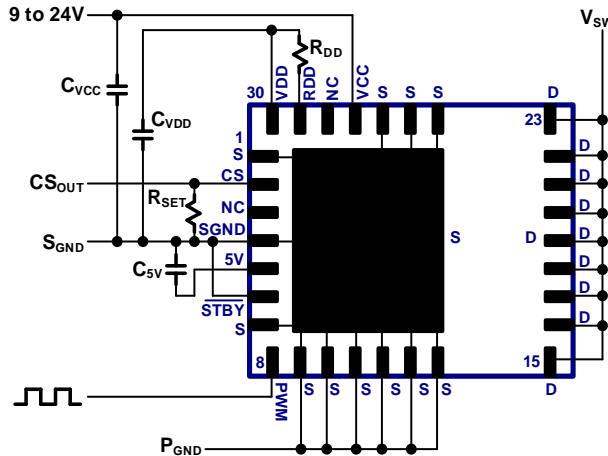

Fig. 20. IC connection diagram
The typical connection diagram for this GaN Power IC is shown in Fig. 20. The IC pins include drain of the GaN power FET (D), source of the GaN power FET (S), IC supply ( $V_{CC}$ ), gate drive supply ( $V_{DD}$ ), gate drive turn-on control SET input ( $R_{DD}$ ), PWM input (PWM), separate signal GND ( $S_{GND}$ ), current sensing output (CS), auto-standby mode input ( $\overline{STBY}$ ), and 5V supply (5V). The Source pad and Source pins (S) should all be connected to the system  $P_{GND}$ .  $S_{GND}$  pin 4 must be connected directly to Source PAD underneath IC. The Source pins (S) should each be connected externally to the Source pad directly underneath the IC. The Drain Pins (D) should all be shorted together by copper in the layout (see Section 9). The external components around the IC include  $V_{CC}$  filter capacitor ( $C_{VCC}$ ) connected between  $V_{CC}$  pin and  $S_{GND}$  pin,  $V_{DD}$  filter capacitor ( $C_{VDD}$ ) connected between  $V_{DD}$  pin and  $S_{GND}$  pin, turn-on dV/dt set resistor ( $R_{DD}$ ) connected in between  $V_{DD}$  pin and  $R_{DD}$  pin, a current sense amplitude set resistor ( $R_{SET}$ ) connected between CS pin and  $S_{GND}$ , and auto-standby mode pin ( $\overline{STBY}$ ) connected to  $S_{GND}$ . An external capacitor ( $C_{5V}$ , 0.01 $\mu$ F max) is required between pin 5V and  $S_{GND}$ . This 5V pin is for internal purposes only and must not be used for biasing external circuitry.